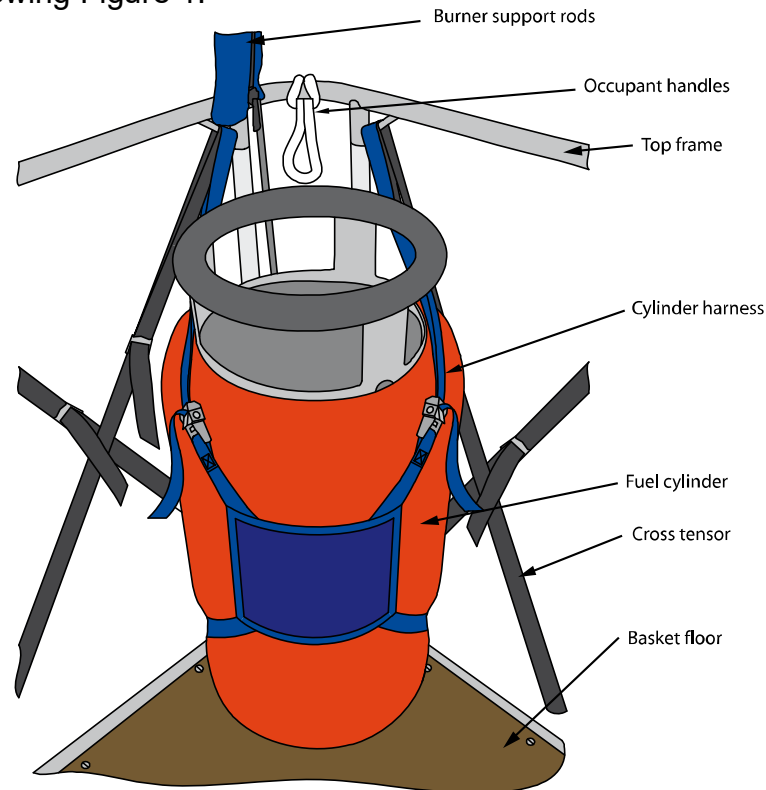

Figure 1 – Cylinder installation inside the basket
2. For cylinders installed inside the basket, the cross-harness supplied must be fitted to each cylinder. These should be fixed so as not to allow any up and down as well as lateral movement, as shown in the following Figure 1: